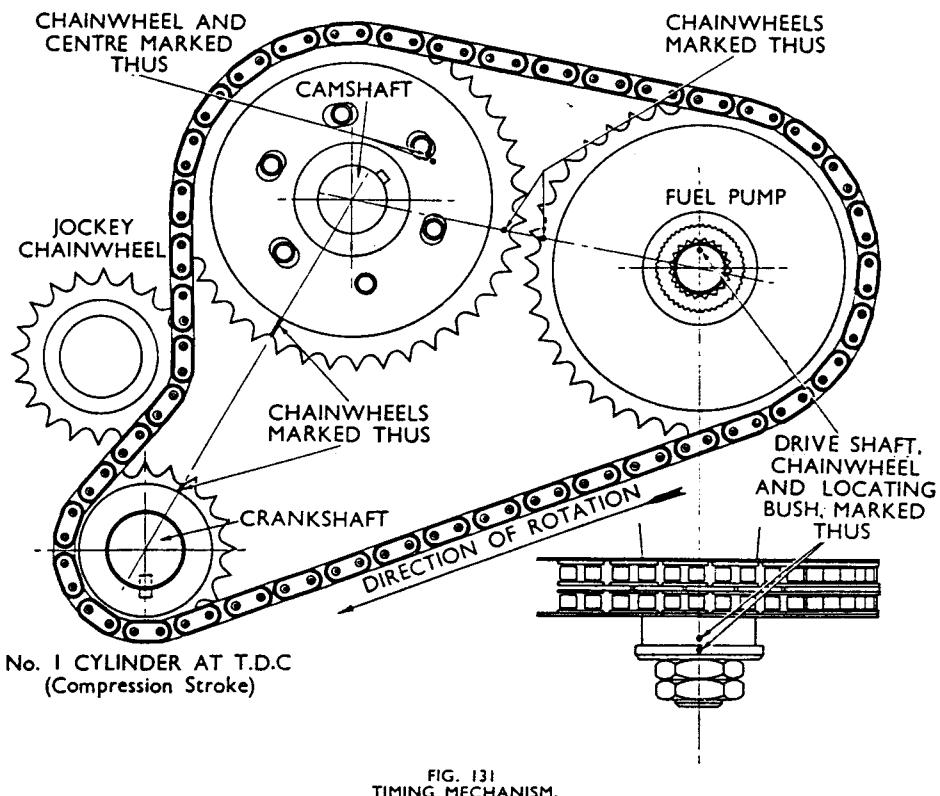

FIG. 131
6. If the camshaft chainwheel has to be extracted separately without its centre, first confirm that the chainwheel and centre are marked as indicated in Fig. 131, if not, mark both parts with punch dots as shown, otherwise resetting will be necessary (see under "Valve Timing B" paras 7 — 9). However, should the timing chain be renewed resetting will probably be required, see "Camshaft
- A. The following procedure assumes that the adjacent teeth of the camshaft, crankshaft and fuel pump chainwheels are marked as shown in Fig. 131, when No. 1 inlet and exhaust valves are fully closed and with No. 4 inlet valve just opening and exhaust valve just closing.
4. Turn crankshaft clockwise through  $90^\circ$  and set keyway accurately at B.D.C., see Fig. 131, thereby bringing Nos. 1 and 4 pistons to T.D.C. Note also that the centre line of the key passes straight through the tooth diametrically opposite.
6. Secure camshaft chainwheel to centre, with punch dots coinciding, by means of six set screws on flat and lockwashers, accurately aligning scribe and punch marks of crankshaft, camshaft and injector pump chainwheels as shown in Fig. 131. Ensure all the slack links in the chain are between the crankshaft and camshaft chainwheels.
- B. The following procedure assumes that neither crankshaft or camshaft chainwheels or the camshaft centre are marked as shown in Fig. 131.
6. Turn crankshaft clockwise through 90° and set keyway accurately at B.D.C., see Fig. 131, thereby bringing Nos. 1 and 4 pistons to T.D.C.
9. Fit locating screw and record the correct position by marking chainwheel and centre as shown in Fig. 131. Fit remainder of screws over flat and lockwashers.
10. With crankshaft and fuel pump chainwheels set as shown, mark camshaft and crankshaft chainwheels in positions indicated in Fig. 131, on lines passing directly through the middle of the crankshaft and injector pump drive shaft.
Any replacement or relocation of parts affecting valve and injector pump timing must be marked in accordance with Fig. 131.
To cater for this and allow for variations in chain length both in production and when fitting a service replacement, the chainwheel is secured to its centre by six fixing screws and their spacing allows for  $1\frac{1}{2}$  stages of vernier adjustment. The chainwheel has one positive hole and five elongated slots, punch dots as shown in Fig. 131, indicate the relationship.